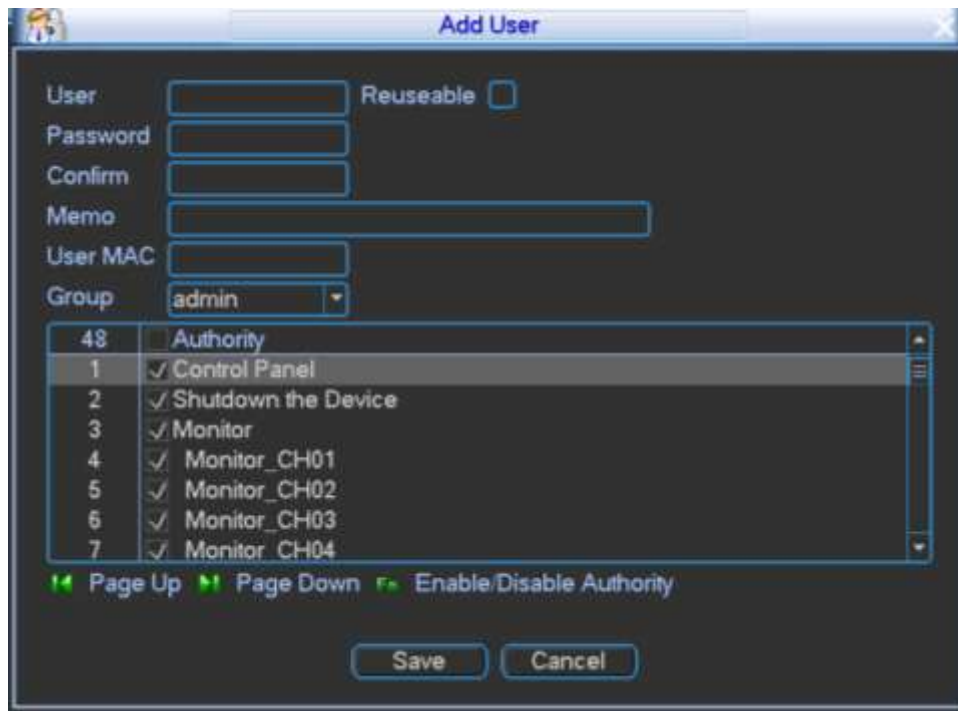

Figure 4-67
- Step 2 Click add user button, the interface is shown as in Figure 4-67.